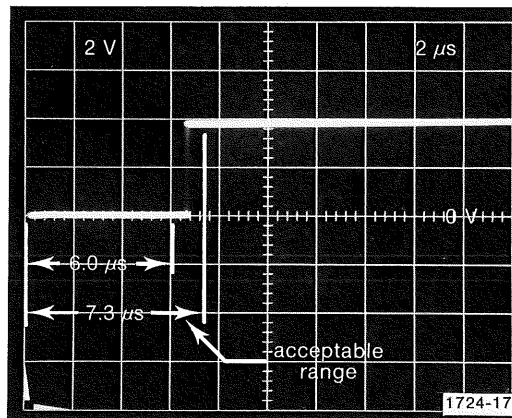

Figure 3-7. Horizontal Blanking Pulse Width.
- c. Connect the probe to U295 Pin 1 (Figure 3-4), and set the oscilloscope sweep to 2 μ s per cm negative trigger-slope. Observe a low-active horizontal blanking pulse with 10.6 to 11.4 μ s duration. Place the sync pulse width strap in the HR position, and observe a pulse with duration 6.0 to 7.3 μ s (Figure 3-7)